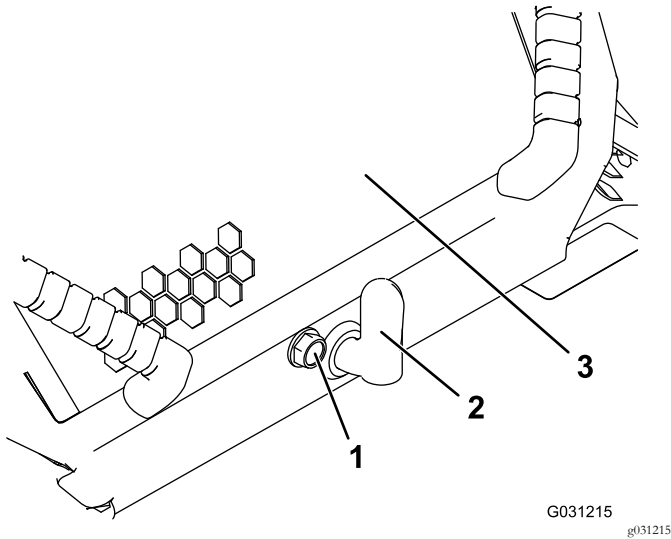

Figure 34
1. Loosen the hood-locking screw (Figure 34)
2. Turn the hood latch clockwise (Figure 34).
3. Lift up on the handles and swing the hood up (Figure 34).
3. Tighten the hood-locking screw to secure the latch (Figure 34).